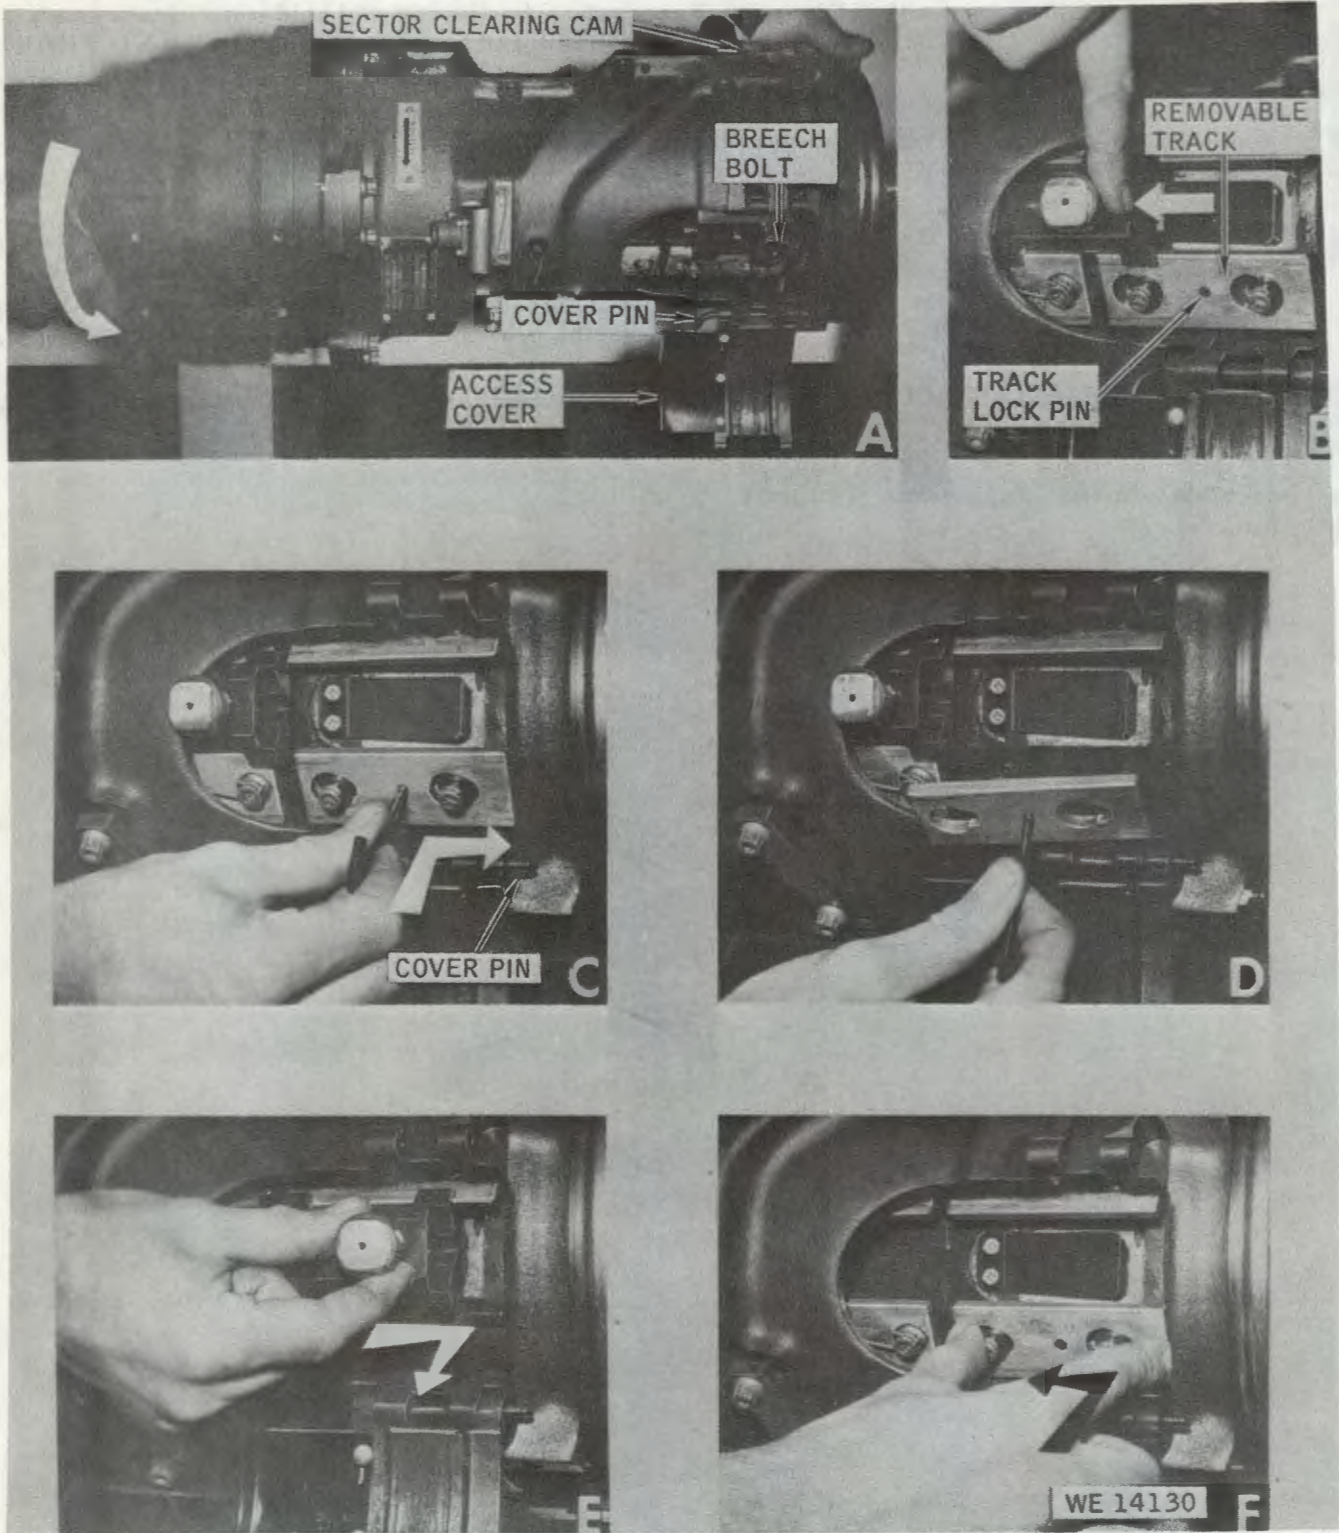

Figure 3-14. Removal and installation of breech bolt assemblies.
(c) Depress and hold sector clearing cam on cannon, and hold BRAKE-CLEAR AND BRAKE switch to CLEAR AND BRAKE position. Rotate cannon until bolt is in cover area (A, fig 3-14), release BRAKE-CLEAR AND BRAKE switch, then move bolt forward to clear removable track (B).